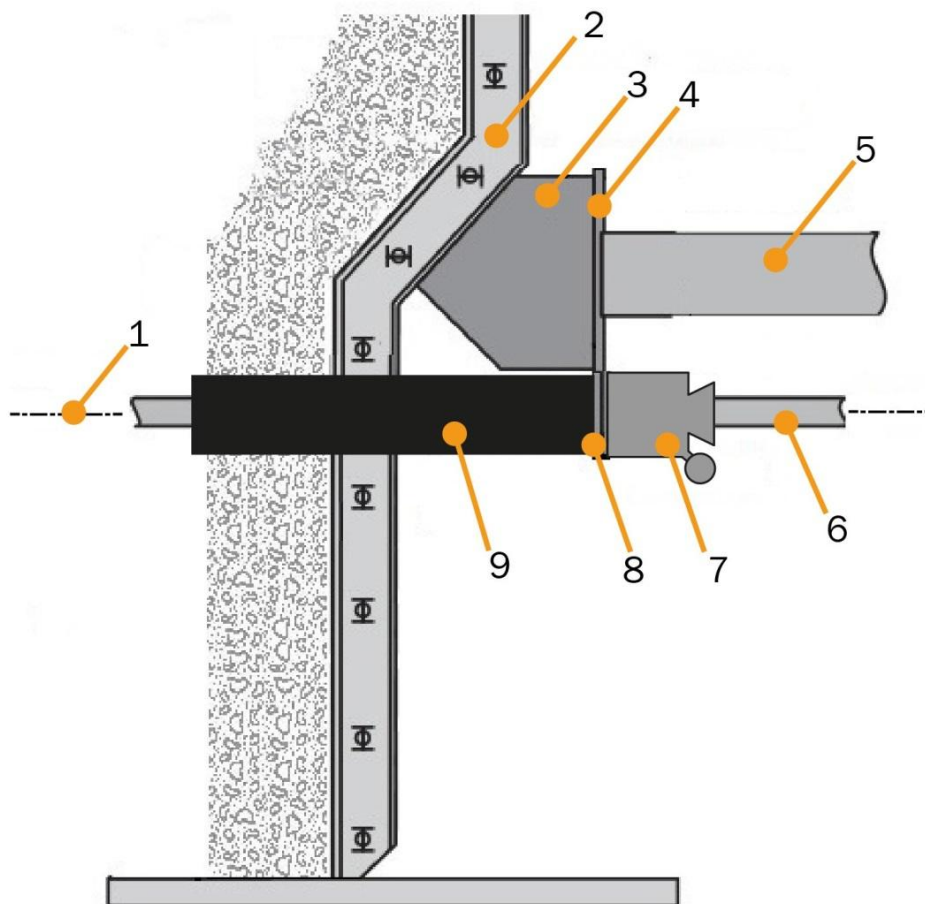

Fig. 19: Retraction device installation
- ▶ Connect the mounting plate to the outer wall of the kiln using a steel sheet angular plate or similar stabilizing material, see Fig. 19: "Retraction device installation", page 35.